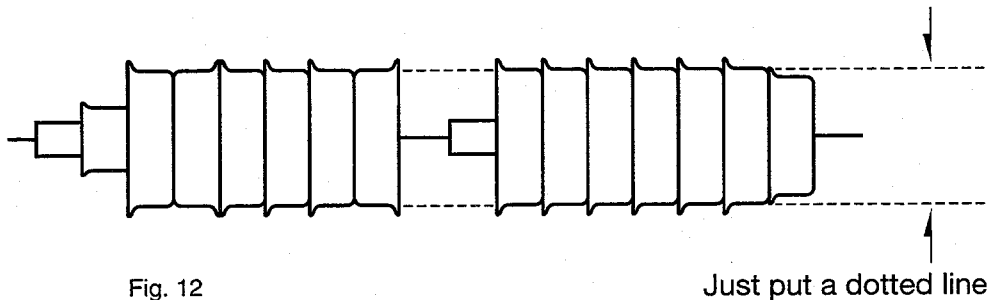

Fig. 12
3. Adjust T1202 to obtain the waveform as same as Fig. 12.